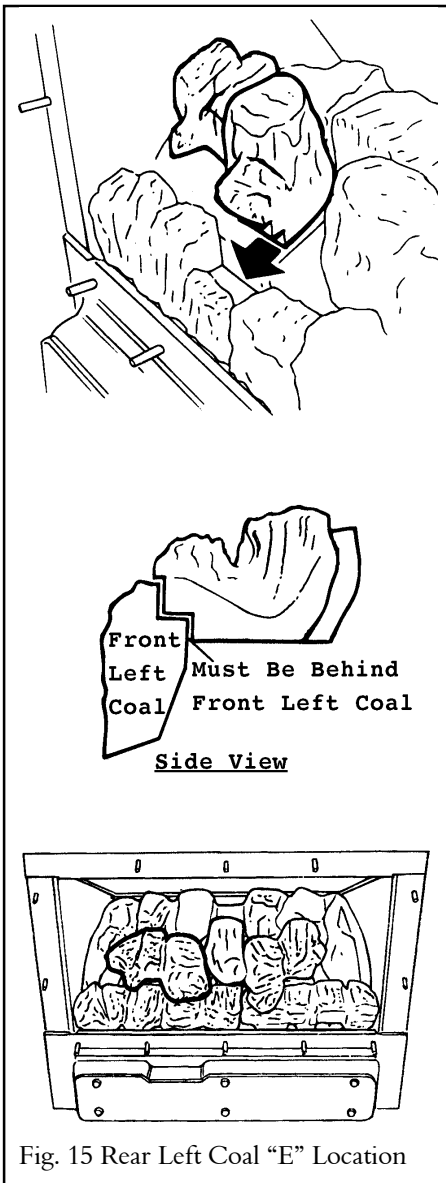

Fig. 15 Rear Left Coal "E" Location
10.6 Place the rear left coal (embossed 'E' underneath) in position as shown in figure 15.